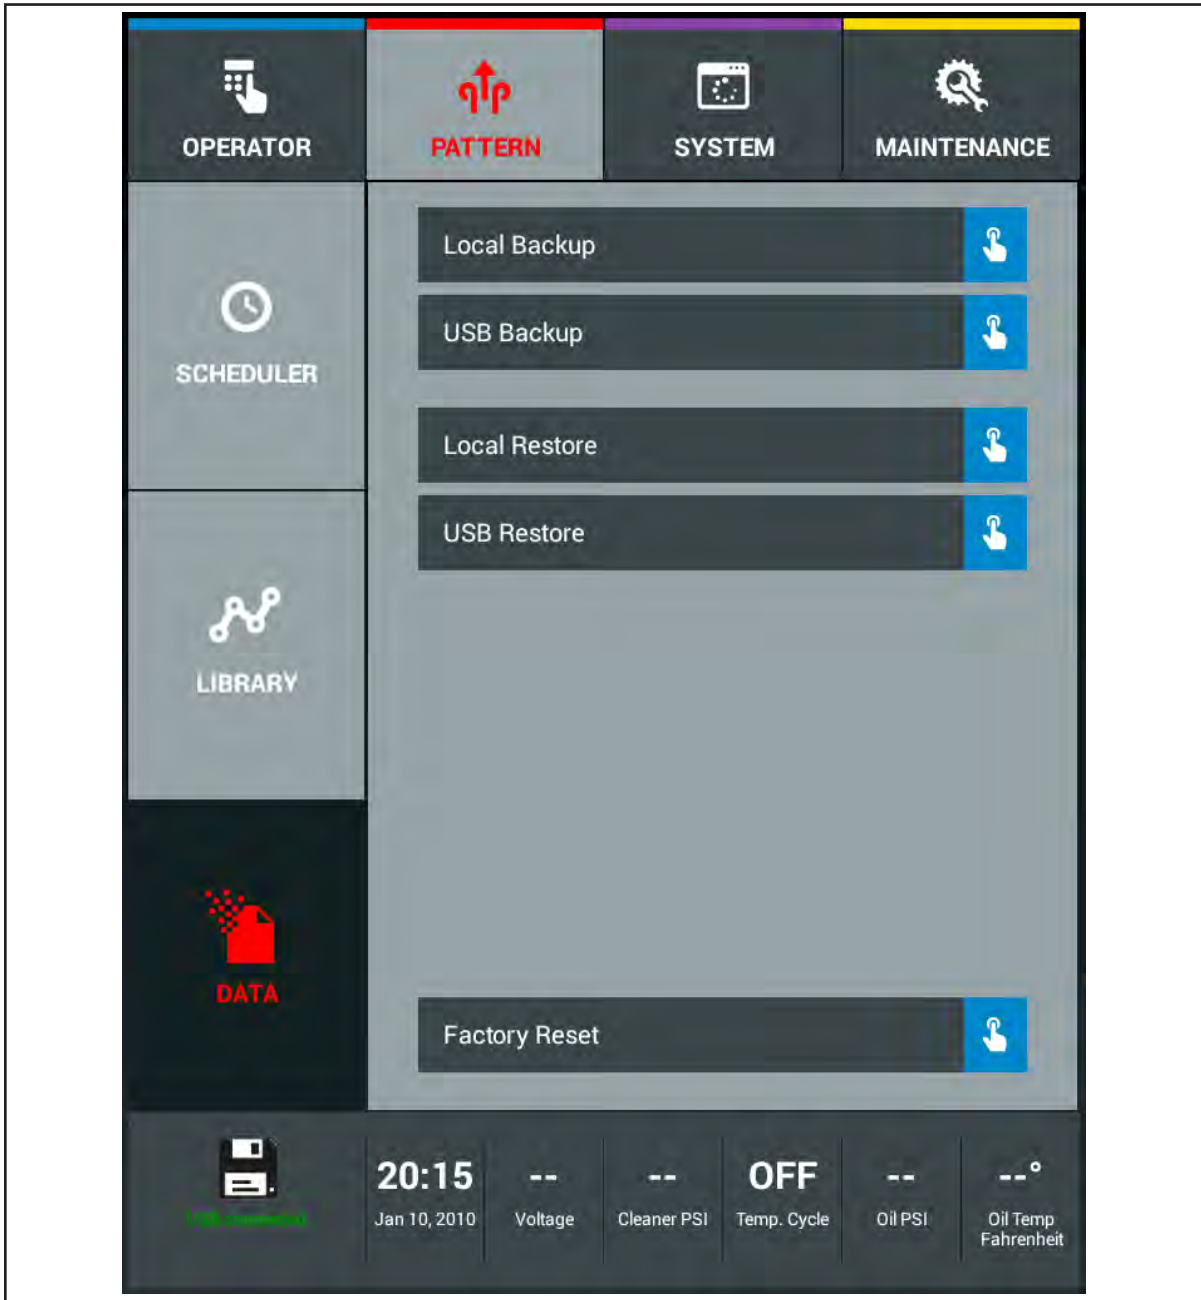

Figure 4-25. Backup and Restore Machine Data
There are multiple ways to maintain the lane machine data. Lane machine data consists of machine settings such as System Center Information, Security, Global and Machine settings, and Conditioner selection. A backup will also contain the machine's Log Files. You can create a "Local Backup" to the tablet or a "USB Backup" to store on a computer. You may also restore the data as a "Local Restore" or a "USB Restore. A "Factory Reset" can be performed if you want all your settings back to the factory default values. Refer to *Figure 4-25*.
2. Select Local Backup and the machine settings will be saved to the tablet memory. Refer to *Figure 4-25*.
2. Select Local Restore and the machine settings will revert back to the last saved data. Refer to *Figure 4-25*.
3. Select USB backup and the data will appear in a backup folder on the USB drive. Refer to *Figure 4-25*.